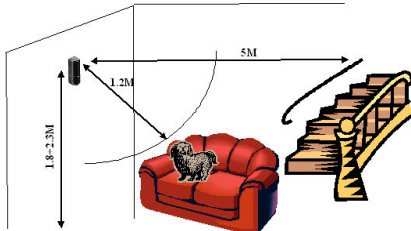

Figure 2: SA-01P installation guidelines with pets present
- **AVOID:** Placing the detector where the house pet can be within 1.2M, like a sofa, and less than 5M from stairs and such where the animal can climb (see Figure 2).